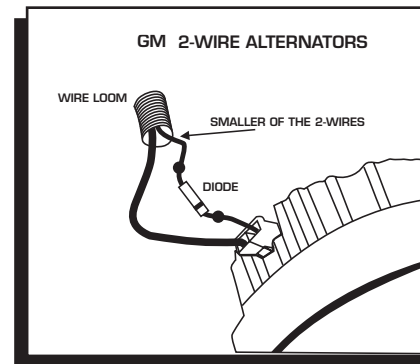

Figure 7 Installing the Diode to a 1973-1983 GM Vehicle.
**GM:** Delcotron Alternators use an internal voltage regulator. Install the Diode in-line on the smallest wire exiting the alternator (Figure 7). It is usually a Brown wire.